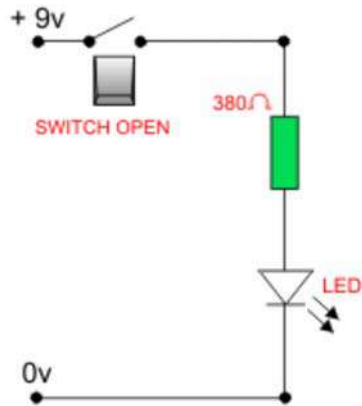

FIGURE 5.3:A simple LED circuit
5.7 Calculate the current that will flow through the LED in Figure 5.3. (3)